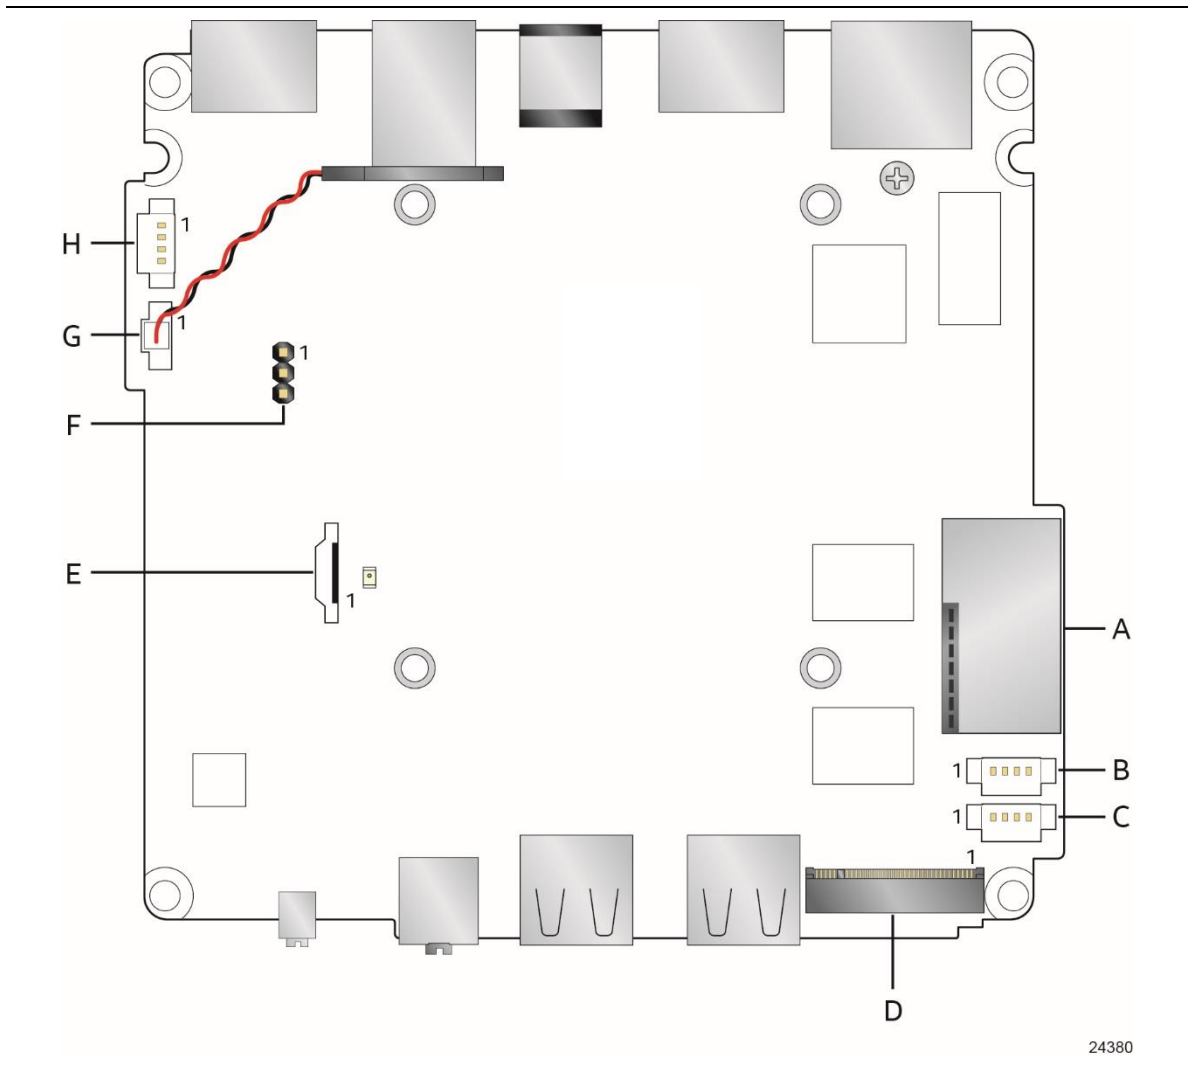

Figure 12. Connectors and Headers (Bottom)
- External CEC adaptor connected via CEC connector (see Figure 12; pinout in Table 16).
Figure 12 shows the locations of the connectors and headers on the bottom-side of the board.
Table 10 lists the connectors and headers identified in Figure 12.
Table 10. Connectors and Headers Shown in Figure 12
Item from Figure 12	Description